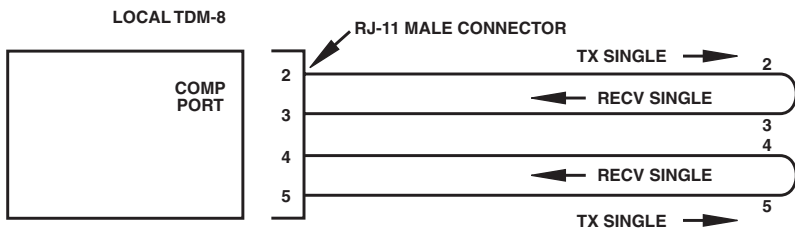

Figure 4. Local TDM-8 Test Wiring Connections.
2. Connect the loopback cable to the COMP port on the Local TDM-8 as shown in Figure 4.